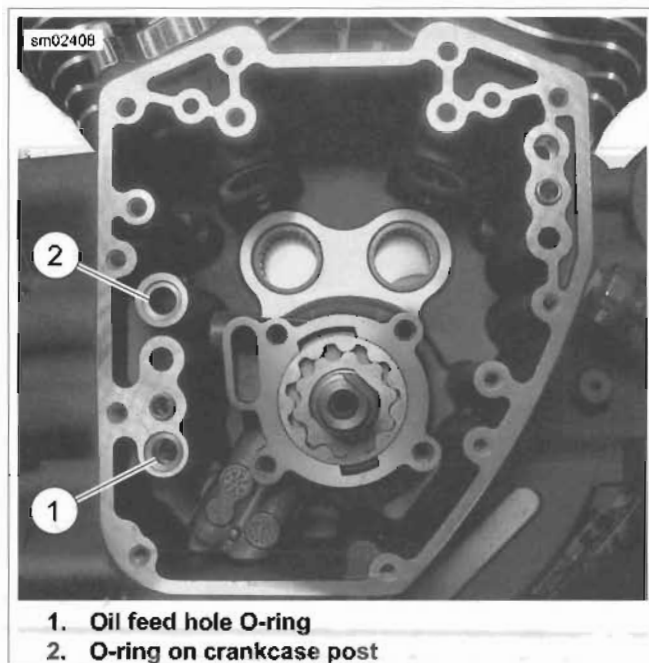

Figure 3-117. Oil Pump O-rings
4. See Figure 3-117. Remove and discard O-rings (1, 2).
6. See Figure 3-117. Apply a very thin film of SCREAMIN' EAGLE ASSEMBLY LUBE to new O-ring (3) for crankcase post. Install new O-ring in groove on crankcase post.